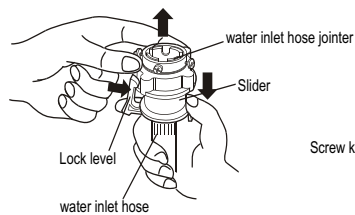
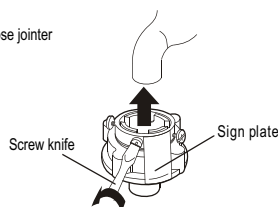
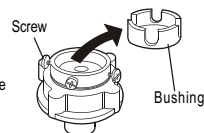

Figure 1
Figure 2
Figure 3
<p>Clean the detergent box and set it on the control panel seat.</p> <p>1.The method of dismantle: Push it up aslant and gently</p> <p>2.The method of install : install it upwards and aslant and push it in .</p>  <p style="text-align: center;">Dismantle                      Install</p>	<ul style="list-style-type: none"> <li>• The lint filter must be used during washing.</li> <li>• It must be cleaned in time after each using.</li> </ul> <p>Lint filter:</p> <ol style="list-style-type: none"> <li>1.Push down the spring piece of the top lint filter to make the claws out of the filter cover, and then pull out the lint filter to get it down. (figure1)</li> <li>2.Pull the back of the lint filter, and then you can get down it off the front cover of the lint filter. (figure2)</li> <li>3.Sweep the rubbish in the lint filter.</li> <li>4.Put the back of the lint filter into the front cover .</li> <li>5.Put the lint filter into filter cover, and make it tight .</li> <li>6.Make sure the lint filter well installed, or it can influence your use.</li> </ol>  <p style="text-align: center;">Figure 1</p>
2. Put down the drain hose. Take off the drain hose frame as indicated in Figure 1. Take the drain hose into the cabinet, then nip the drain fixing clamp to make it deviated from the clip, the other hand is used to put down the drain bushing, as indicated in Figure 2, 3.
1. Press the lower end of the lock lever and push down the slider. Take off the water inlet hose jointer from the water inlet hose component. See to Figure 1.
2. Loosen the screw till the water faucet can be accessed. Put the jointer of the water inlet hose on the faucet. See to Figure 2. (If the faucet is too large and the jointer can not be set on the water faucet, please loosen the four screws and take out the bushing in the jointer. The front end of the faucet must be smooth, otherwise it may leak water. See to Figure 3.)